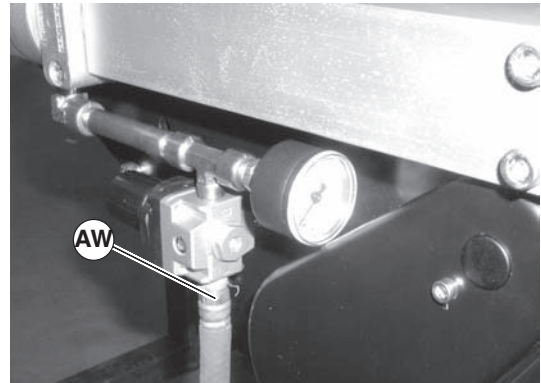

Figure 42
7. Reattach air supply (Figure 42, item AW) to center drive. Refer to "Conveyor Belt Tensioning" section on page 17 for more information.